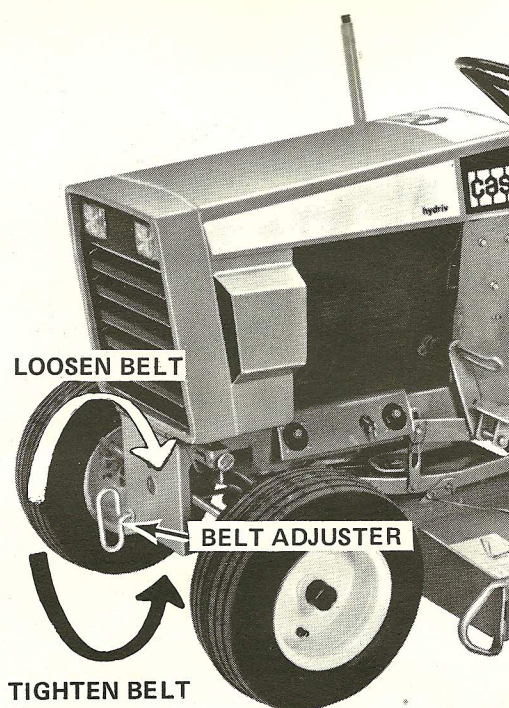

FIGURE 14 BELT ADJUSTMENT
2. Completely turn the belt adjuster handle counter-clockwise. This will permit mounting clearance at the front axle. See Figure 14.